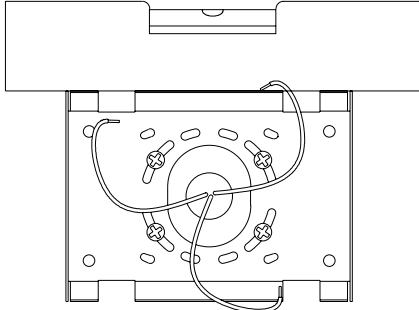

Figure 4
- Level mounting plate to wall using a spirit level. See Figure 4.